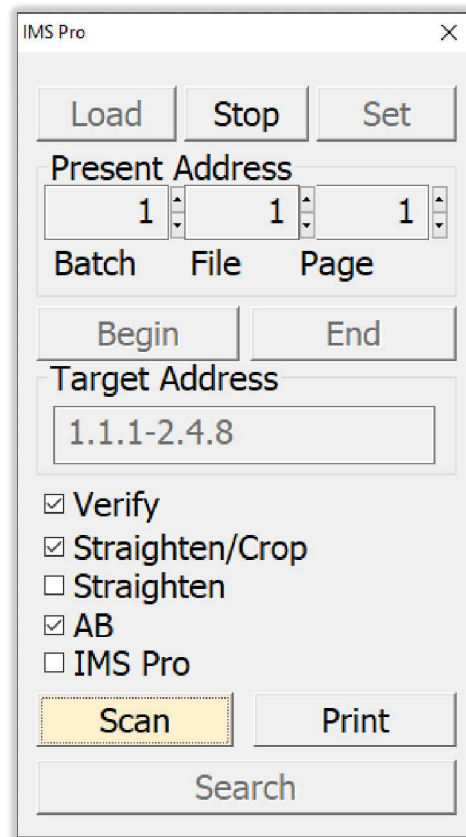

Figure 107
- i. The *Verify* check box can be used to ensure that an image(s) exist(s) and look correct before scanning. The ScanPro will move to the selected image, and the *Scan* button will turn yellow. Click the *Scan* button to move to the next image. *Figure 107*